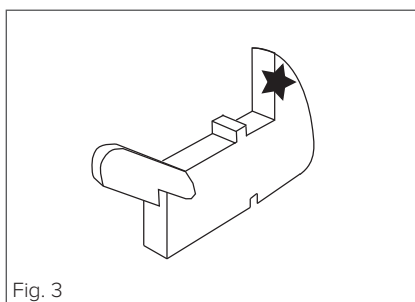

Fig. 3
- Hold the door to the appliance in the closed position and manoeuvre the hinges so that the part of the hinge, highlighted by the star in fig. 3, inserts into the hinge slot in the cavity frame.